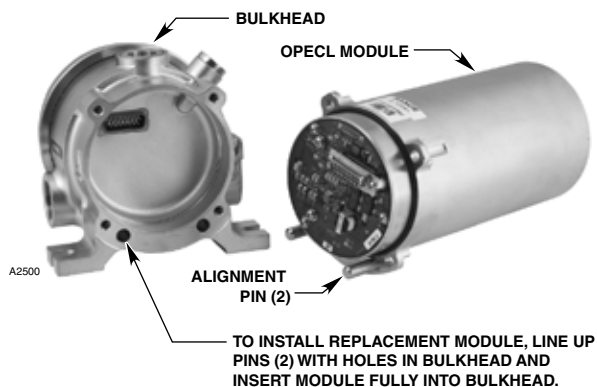

Figure 24—OPECL Module Removed from Bulkhead
5. Line up the two pins on the replacement module with the two holes in the bulkhead and insert the module straight into the bulkhead. See Figure 24.